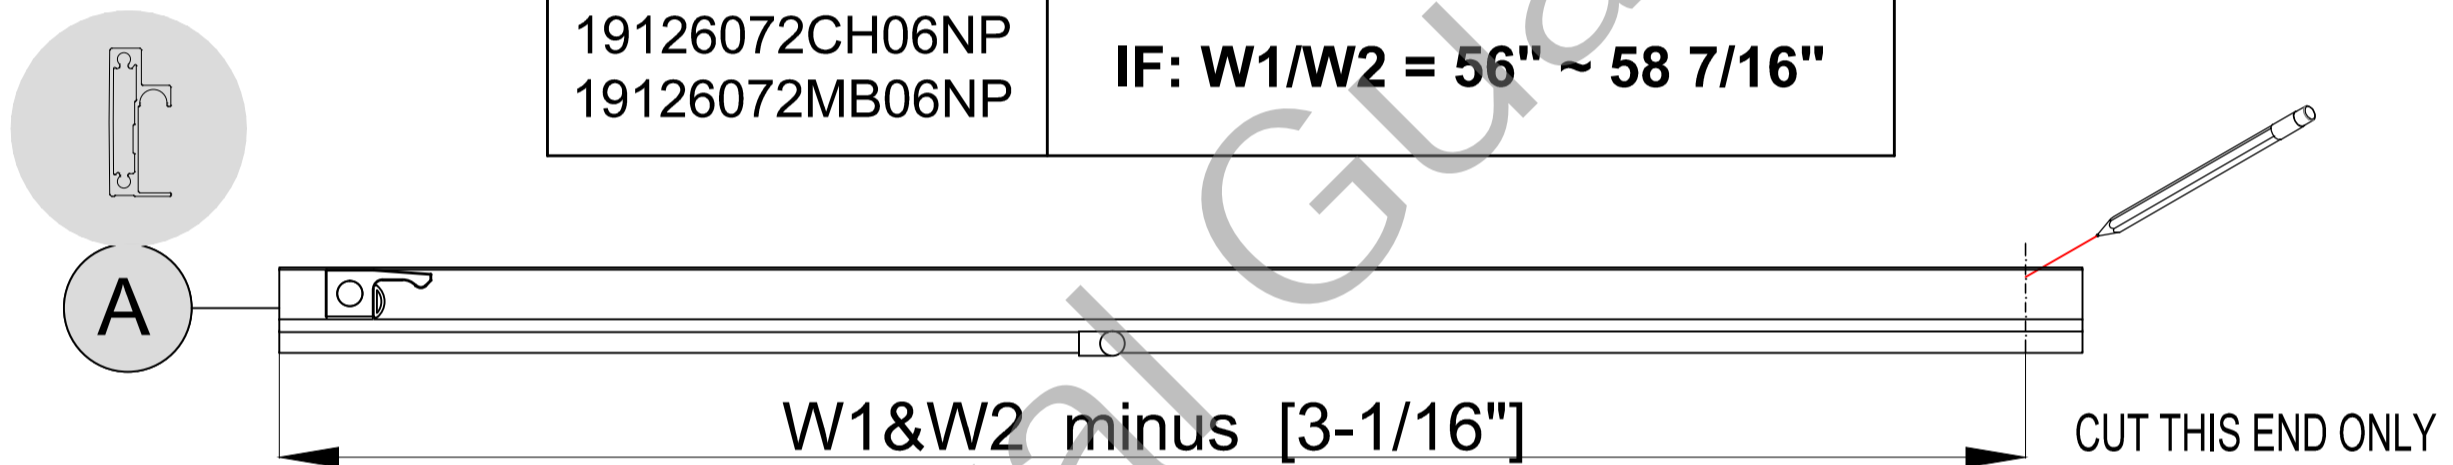

Fig.2
| Model No.                        | Top and bottom Rail need to cut as Fig.2&Fig.3 |
1. Using a pencil or another marking tool , mark distance on the Top and bottom Rail (A) from the edge of the Top and bottom Rail (A) as shown in Fig.2.
2. Cut the Top and bottom Rail (A) to: "W1&W2" dimension minus [3-1/16"]